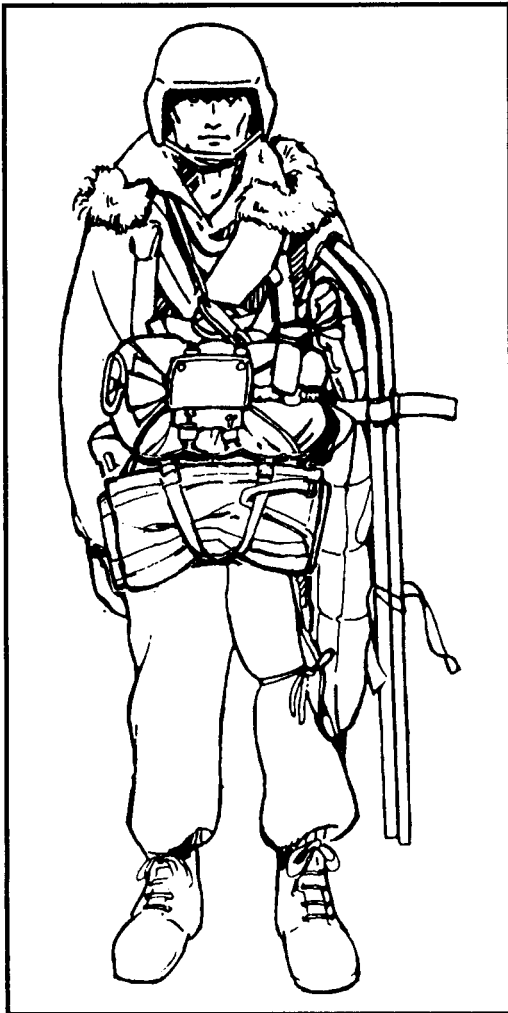

Figure 13-8. Upper and lower tie-downs.
b. When jumping with the ALICE pack or weapons case, the parachutist routes the lower tie-down on the case through the metal frame and around the leg. A separate tie-down tape for each is not necessary (Figure 13-8).